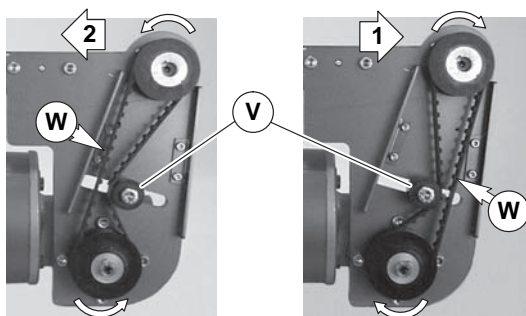

Figure 16
9. Depending on conveyor belt travel (direction 1 or 2), locate timing belt tensioner (Figure 16, item V) as shown. Tension timing belt to obtain 0.125" (3 mm) deflection for 1.0 lb (456 grams) of force at timing belt mid-point (W). Tighten tensioner screw to 103 in-lb (12 N-m).
3. Depending on conveyor belt travel (direction 1 or 2), locate timing belt tensioner (Figure 16, item V) as shown. Tension timing belt to obtain 0.125" (3 mm) deflection for 1.0 lb (456 grams) of force at timing belt mid-point (W). Tighten tensioner screw to 103 in-lb (12 N-m).
5. Depending on conveyor belt travel (direction 1 or 2), locate timing belt tensioner (Figure 16, item V) as shown. Tension timing belt to obtain 0.125" (3 mm) deflection for 1.0 lb (456 grams) of force at timing belt mid-point (W). Tighten tensioner screw to 103 in-lb (12 N-m).